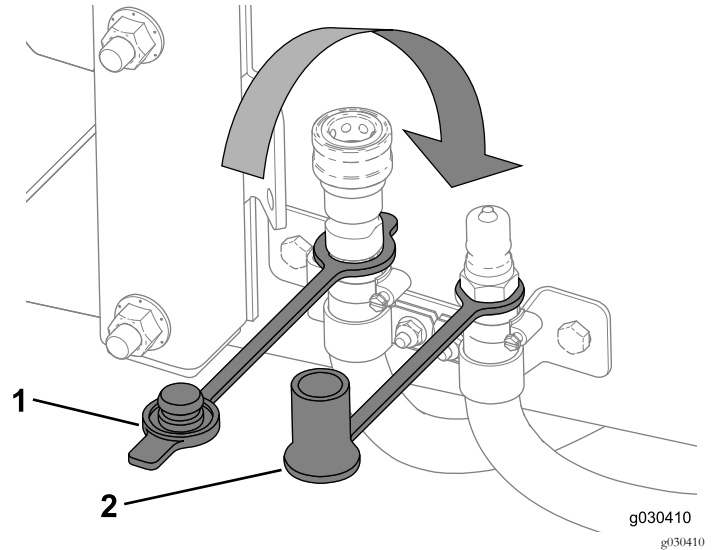

Figure 64
3. Seal the heater hoses using the dust caps (Figure 64).